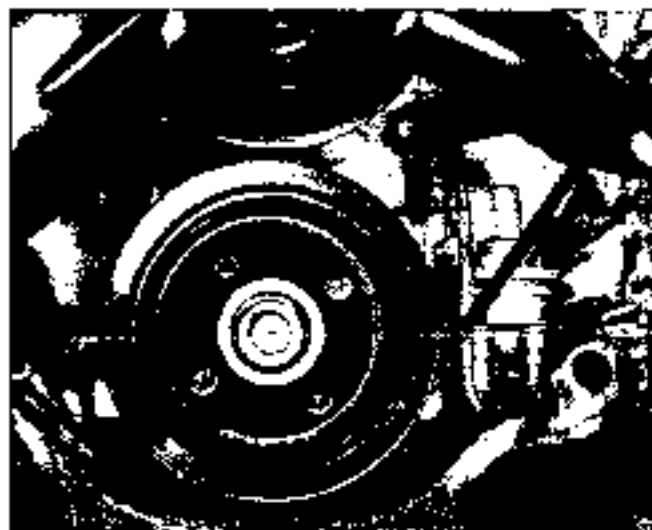

Fig. 6-93 Harmonic Balancer
2. Position fan so vee angles will be at top and bottom allowing access to balancer (Fig. 6-93).